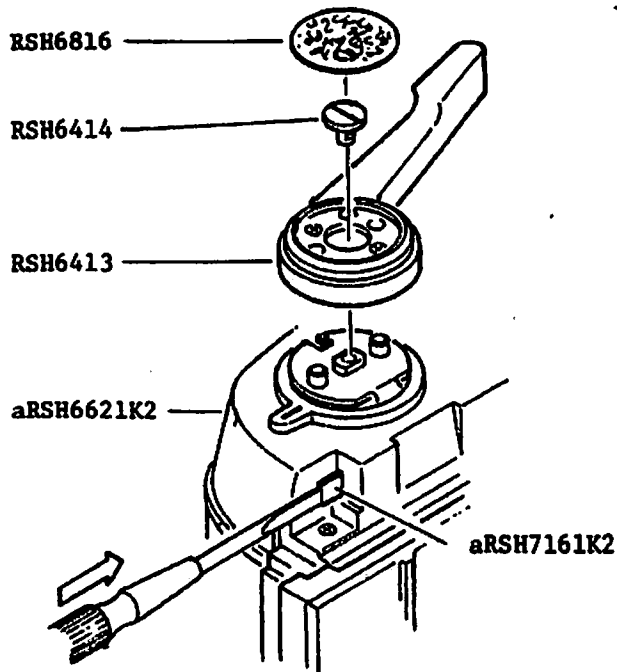

Fig. 99
- (1) Remove Winding lever (RSH6413) and Top cover retaining screws (PBl.7x3, PBl.7x4).
- (2) Remove Top cover (aRSH6621K2) pushing Preventive lever assy. (RSH7161K2) with a screw driver as shown in Fig. 99.